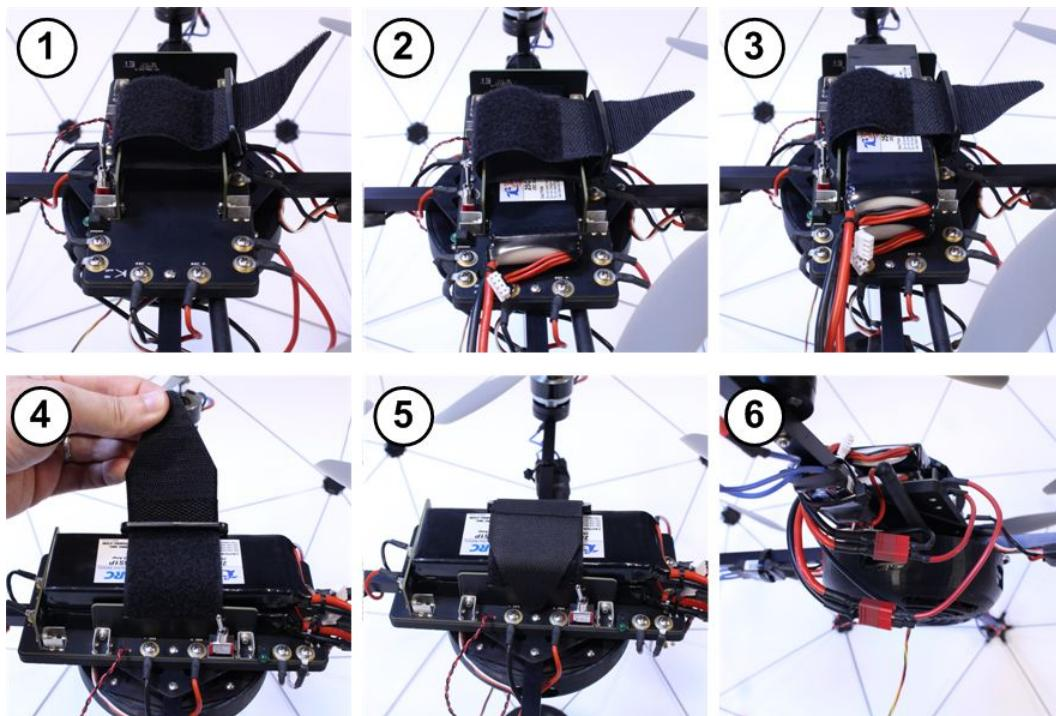

Figure 4.1: Battery connection procedure
3. Install the batteries as illustrated in Figure 4.1. With the power switch in the off position, insert the batteries into the battery compartment on bottom of the power distribution board, making sure the batteries rest against the far wall of the compartment. Secure the batteries in place using the Velcro strap. Connect the batteries to the power board battery connectors.